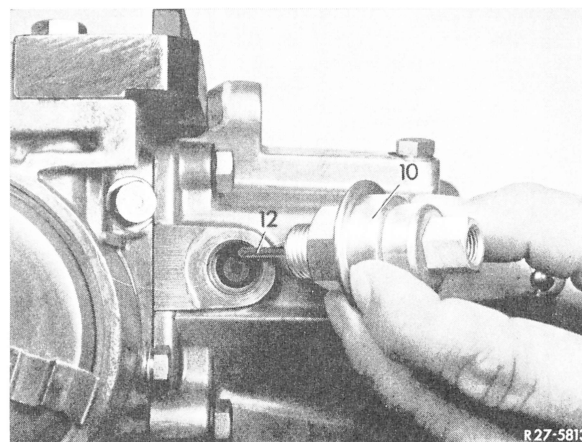

Fig. 46
**74** Coat vacuum box (10) on threads with sealing compound and screw into rear transmission case (Fig. 46), making sure that the thrust pin enters bore in control valve.